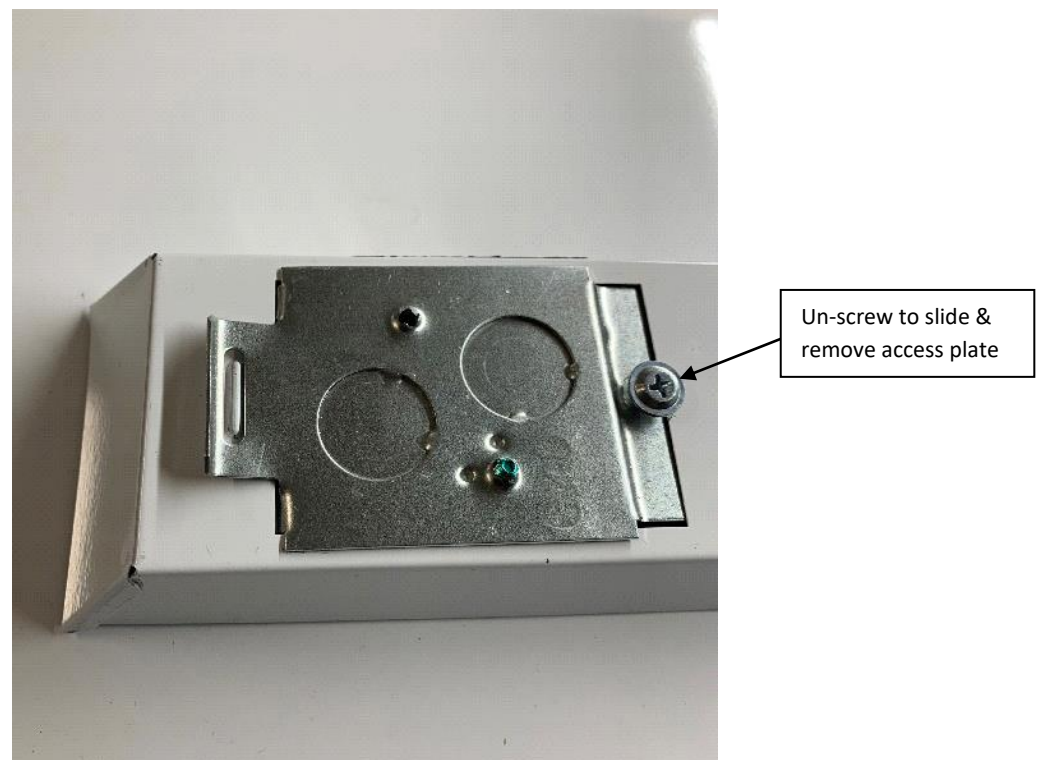
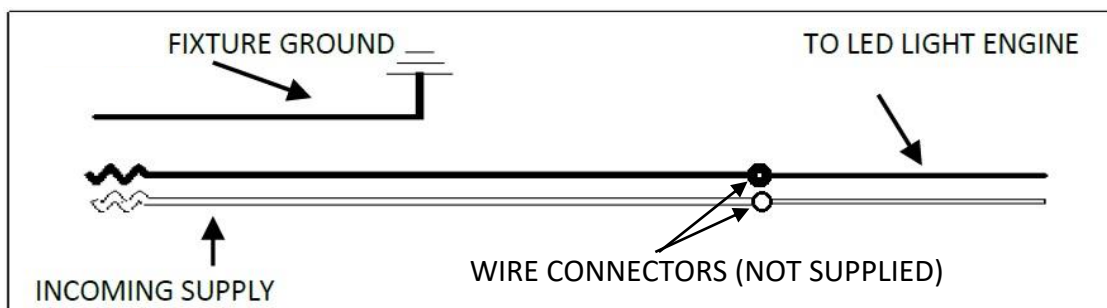

Figure 3: Remove Access Plate
Figure 5: WIRING DIAGRAM
3. Using a screwdriver (not supplied), remove access plate as shown in Figures 3 & 4, with grid power OFF make electrical connections from supply and properly ground as local codes dictate (refer to Figure 5).
7. Reinstall the access plate and fasten screw in place like shown in Figure 3.
Note: For 208V & 240V, connect one hot lead to Black and the other hot lead to white. (figure 5)